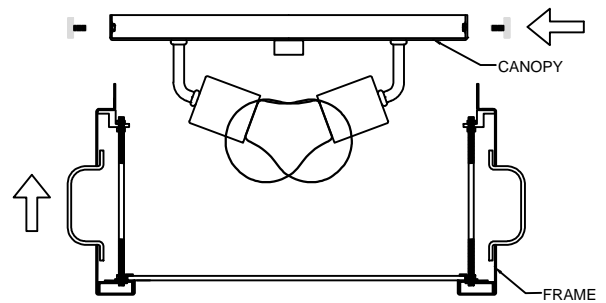

FIGURE-03
- Install the frame to the canopy using thumbscrews. (See Figure -03)